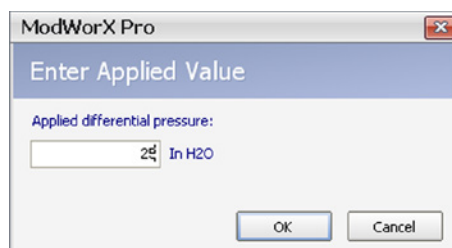
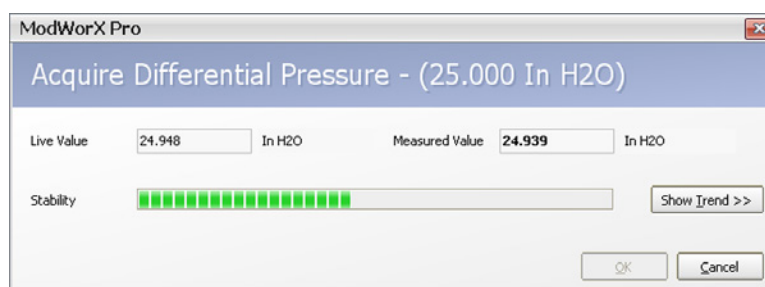
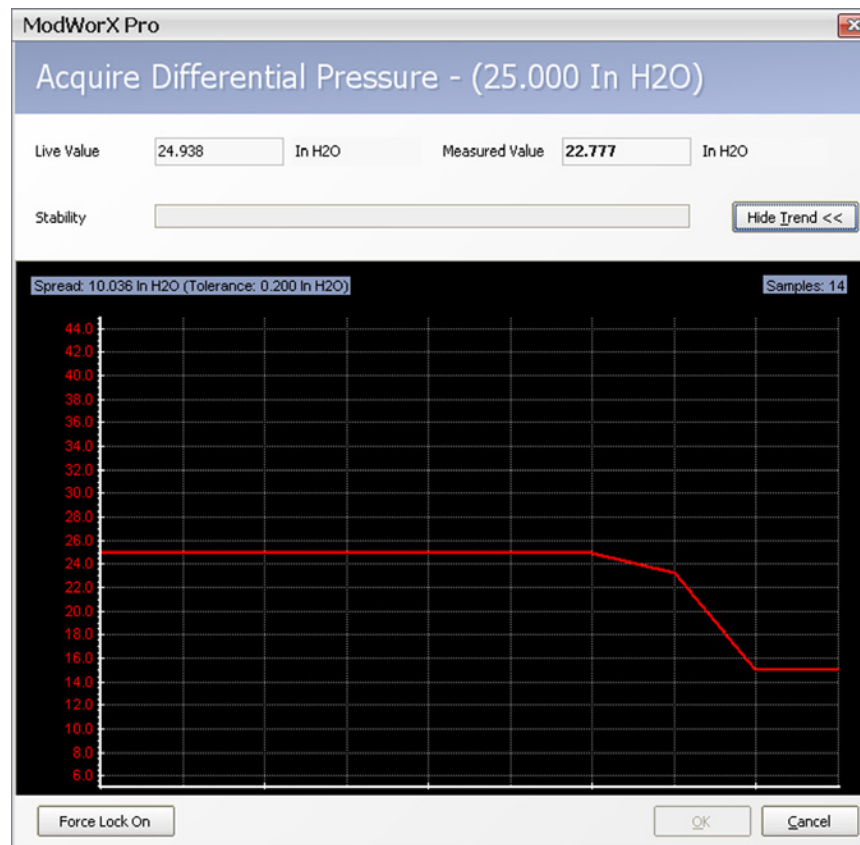

Figure 8.4
Figure 8.5
Figure 8.6
- Apply a known pressure to the calibration test device (for example, 25 In H2O) and click **Acquire Point** (Figure 8.4). An Enter Applied Value dialog will appear (Figure 8.5, page 114).
6. Enter the applied pressure value (for example, 25) in this field, and click **OK**. A screen will appear, showing the live value, the measured value, and a stability bar showing the progression of the calibration (Figure 8.5). The live value is the instantaneous reading of the pressure input, and the measured value is the average of all samples read.
7. To view the progression of the calibration process in a graph, click **Show Trend** (Figure 8.5). This view also shows the spread of values and the number of sample readings taken (Figure 8.6).